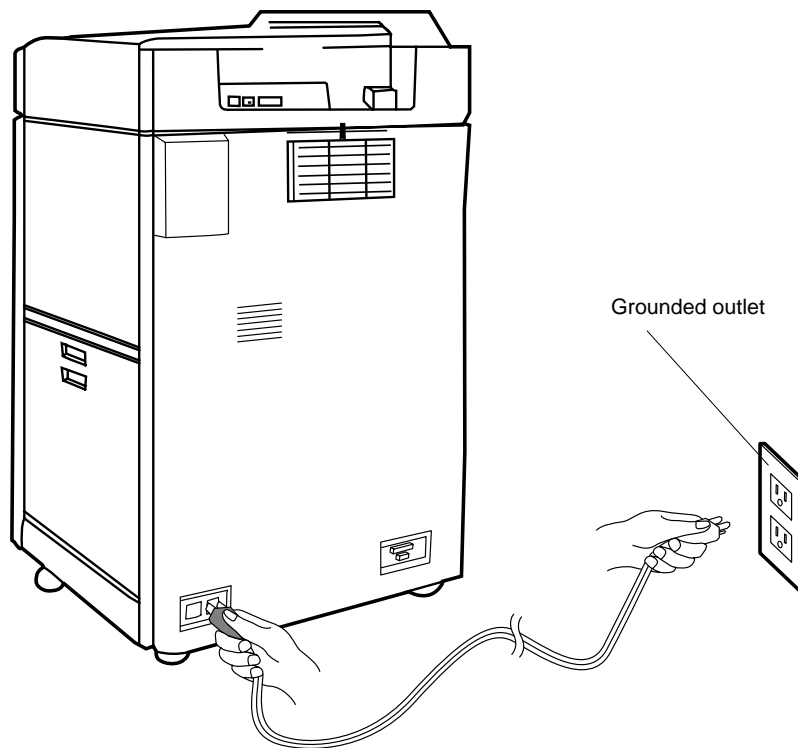

Figure 2-40 Connecting the Power Cord
2. Insert the power cord plug, female side in the printer and male side in the AC power (grounded) outlet, as shown in Figure 2-40.